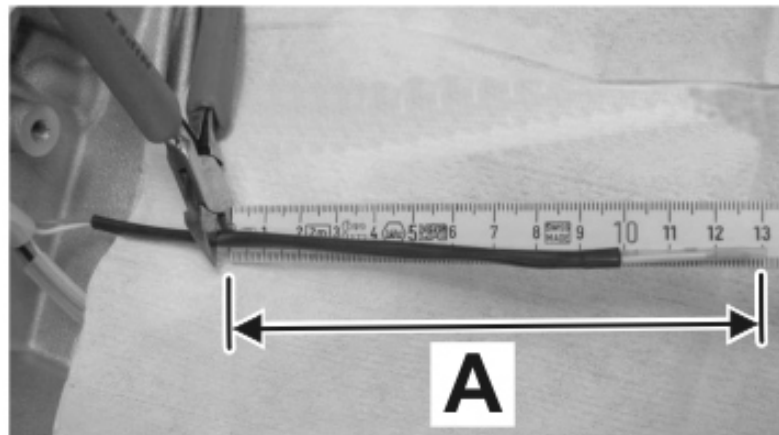

Figure 2
- 6 Disconnect old sensor line (starting from the front edge of the temperature sensor) ⇒ Length 130 mm (⇒ *Figure 2-A*).